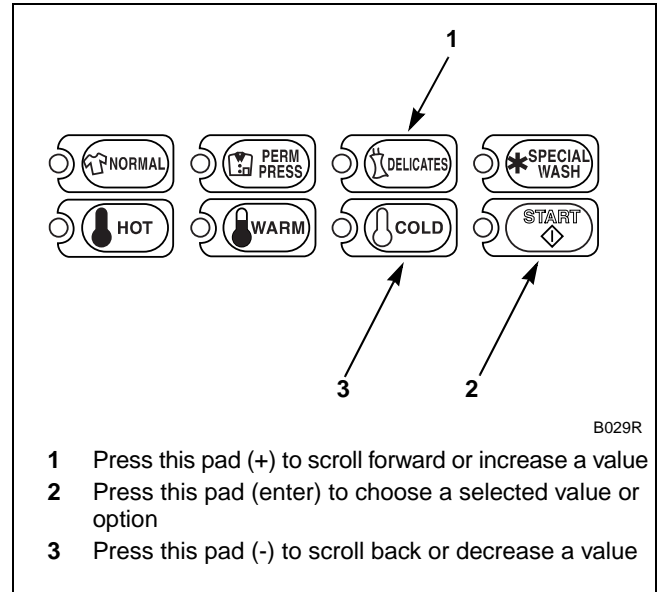

Figure 155
5. Press the DELICATES (+) or the COLD (-) keypad to increase or decrease the current output value displayed in the VFD to the desired output value. Refer to *Figure 155*.